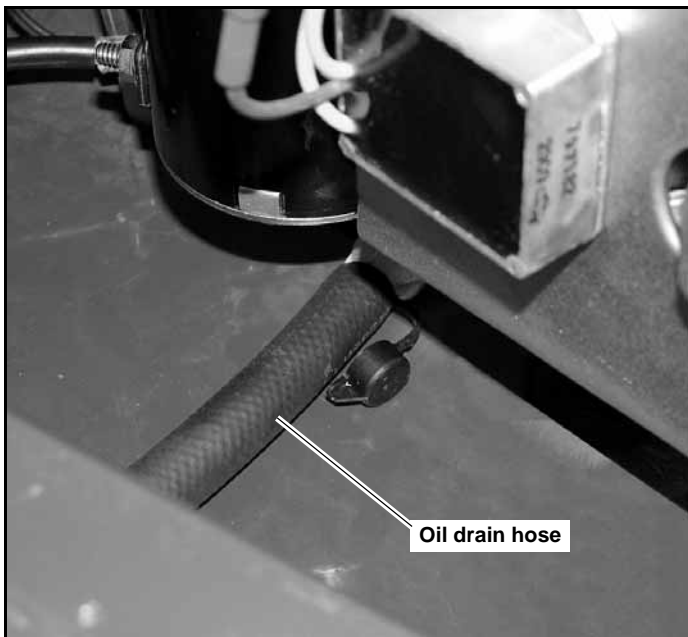

Figure 4-5
4. Attach one end of the hose onto the oil drain valve nipple. Make sure the hose is pushed all the way onto the valve. Figure 4-5